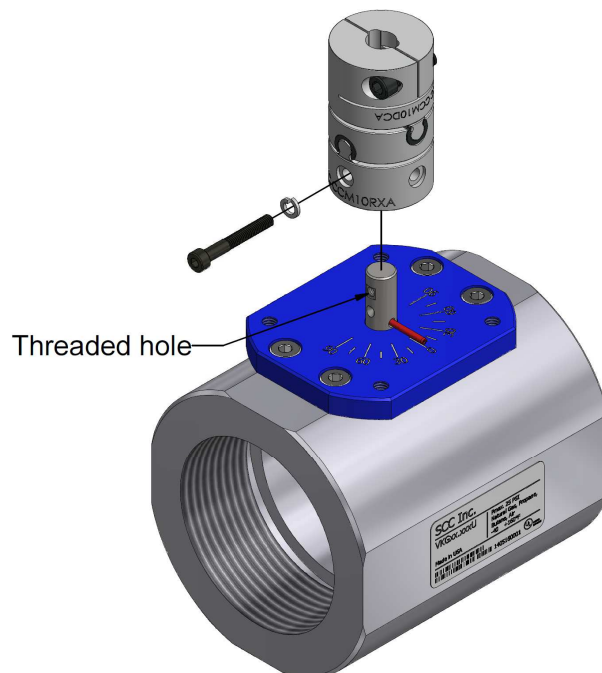

Figure 2: Coupling Installation
1. Slide the coupling over the VKG... valve shaft and line up one of the holes in the coupling with the threaded hole in the valve shaft. Take care to attach the coupling in the desired orientation, taking notice of how the 10mm "D" shaft of the actuator will mount into the top hub of the coupling. Using a 3mm hex key, the M4 split lock washer, and the M4 x 30mm socket cap screw, fasten the coupling to the valve shaft as shown in Figure 2 below.